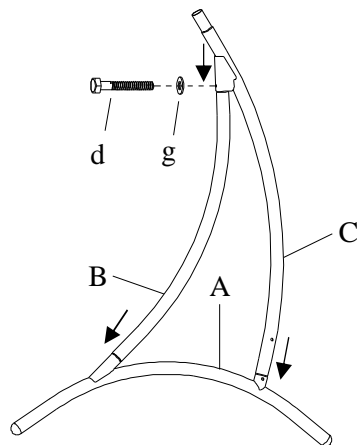

Fig. 1
**Step 1:** Install the front leg (B) on leg side base (A), then install the back leg (C) using M8\*50 bolt (d) and M8 washer (g) as shown in **Fig.1**. Repeat this procedure for the other side.